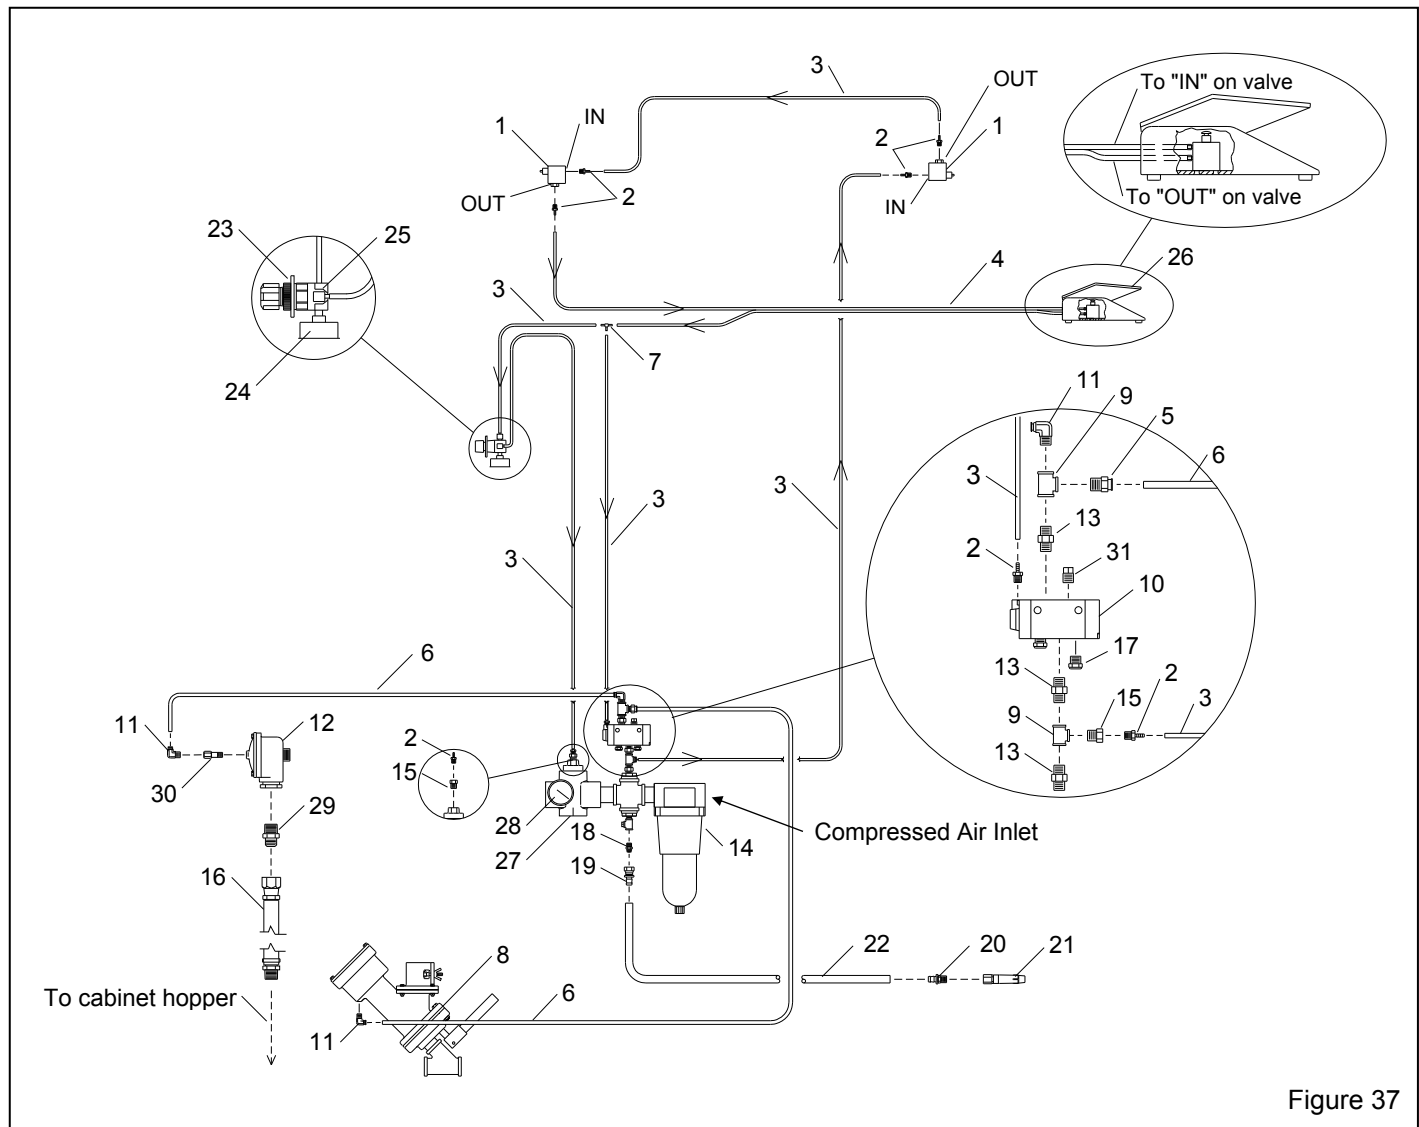

Figure 37
9.7 Plumbing and Air Schematic, Figure 37